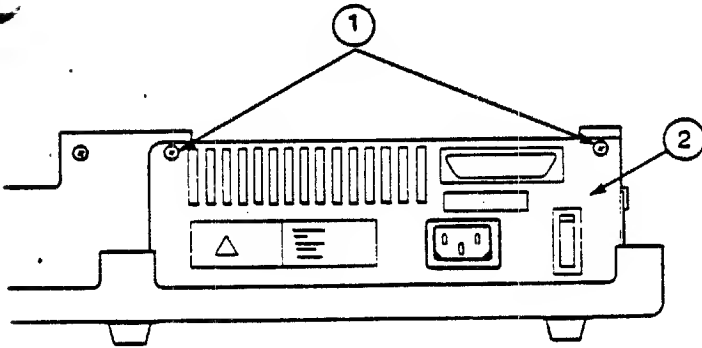

FIGURE 14
4. Hold the power supply in place as you turn the ProFile right side up. Position it with its rear plates facing you. Find the longer of the two rear plates, remove the two screws that hold it on (Figure 14, #1), and remove the plate (Figure 14, #2).